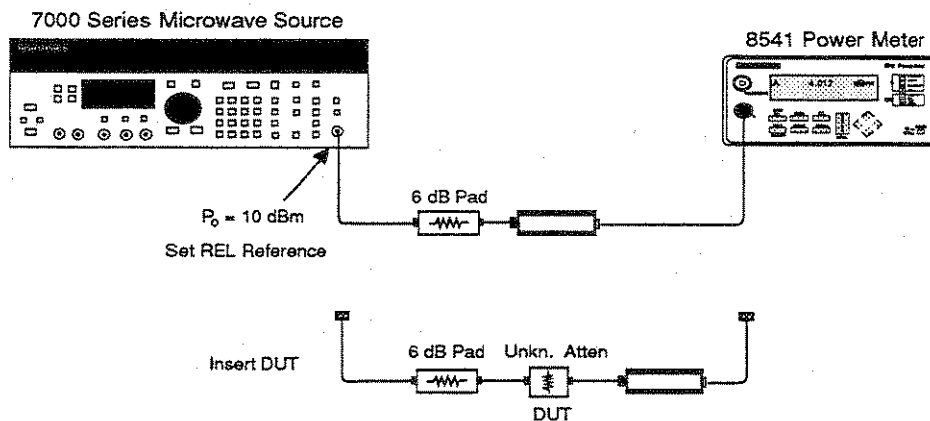

Figure 5. Single Channel Attenuator Calibration at a Single Frequency.
4. Insert the attenuator for calibration as shown at "DUT" indication above in Figure 5.
Mismatch Uncertainty is the largest source of errors during power measurements. The 6 dB attenuator (6 dB pad) in Figure 5 reduces mismatch uncertainty by effectively improving the return loss (or reducing the SWR) of the source.